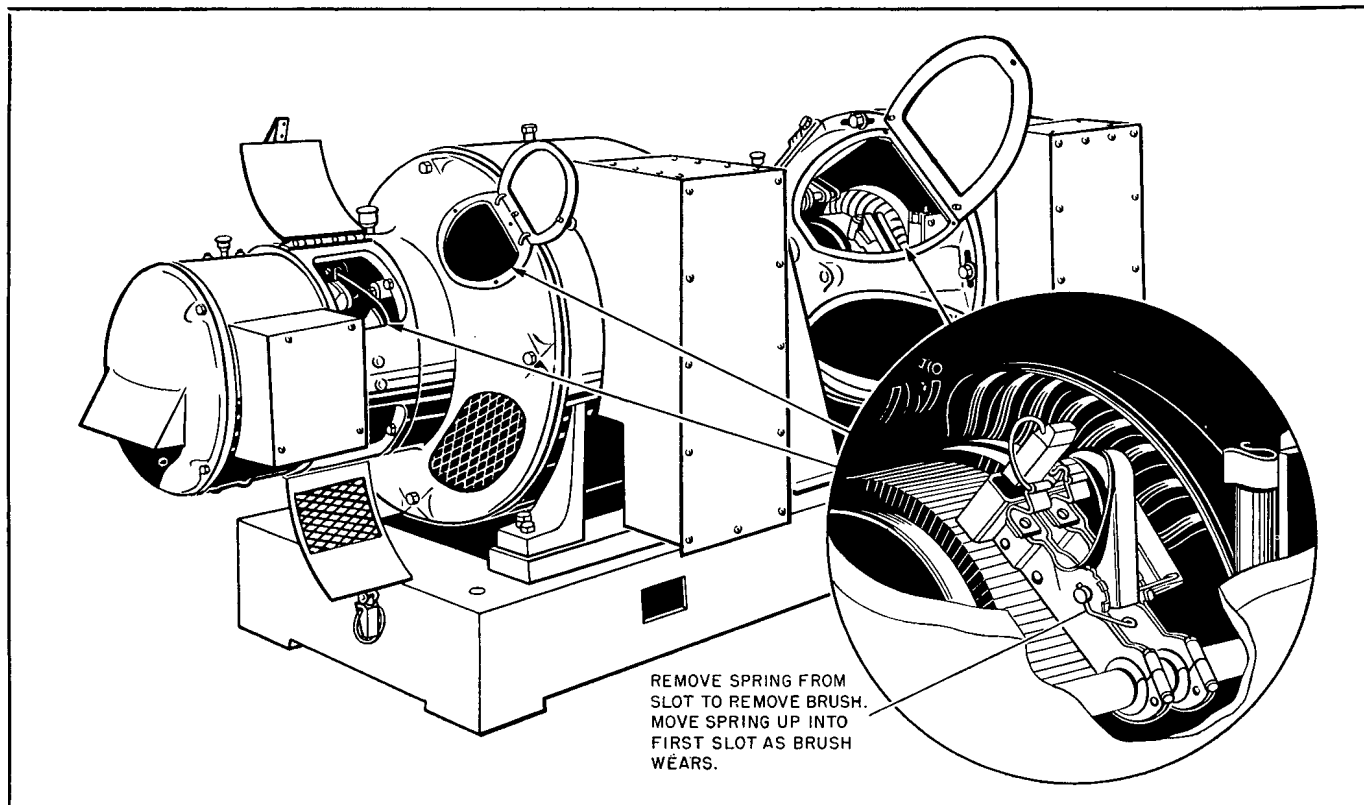

Figure 6-4. Replacing Brushes in Motor-Generator
c. The brushes in the motor generator are shown in Fig. 6-4. The exciter brushes are accessible when the cover on the exciter is removed. This cover consists of three sections hinged together and is held in place by two rings over retaining posts. When these brushes are replaced they should be seated with a seating stone. The brushes should be placed in the brush holders and the stone held lightly against the commutator while it is running. The seating stone should be applied two or three times for a few seconds each time. The brushes in the d-c drive motor are accessible when the hinged covers are opened. These covers are on the coupler side of the bell housing as shown in Fig. 6-4. These brushes should be replaced and seated as previously described. When servicing the brushes note the appearance of the commutators. If the bars are worn down to the insulating spacers in the motor or exciter, the unit should be replaced and returned to the shop for a complete over-hauling. The exciter and generator must be removed together as one unit. The d-c drive motor can be removed as a separate unit. The brushes should be replaced whenever they have worn sufficiently to materially reduce the spring pressure and cause the brushes to ride lightly on the commutator.